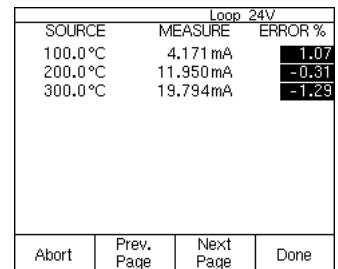

Figure 8
- Once the DPC has completed this evaluation, it will display the post test summary screen with the SOURCE, MEASURE and ERROR columns. Failures in the error column will be in reverse video (Figure 8). Depress "Done."